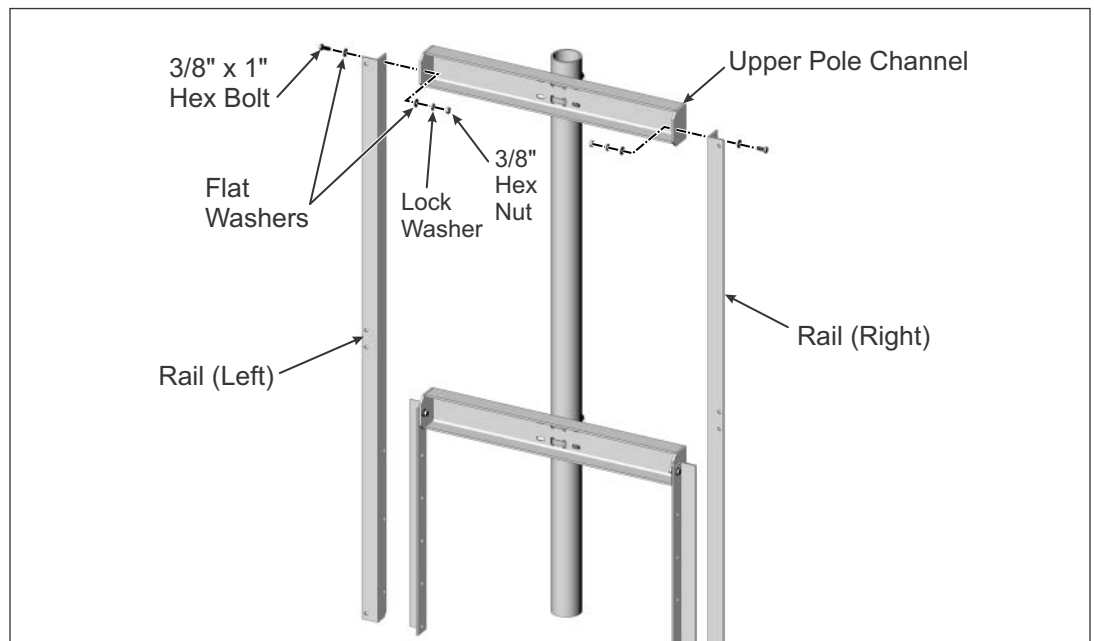

Figure 3-1: Attaching Rails to Pole Channel
The two Module Rails are attached to the ends of the upper Pole Channel using 3/8" x 1" hex bolts and hardware. (See Figure 3-1)
- A. Orient and align the left Module Rail as shown in Figure 3-1. Secure with one 3/8" x 1" hex bolt, lock washer, flat washers, and Hex Nut. Finger tighten for now.